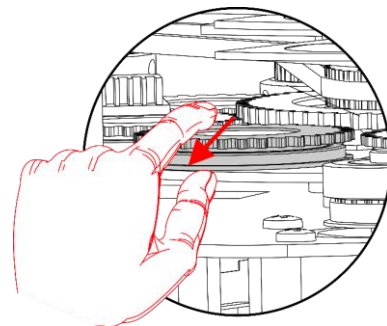

**Fig. 15**
- 03) Loosen the 6 hex screws on the maintenance cover, as shown in Fig. 15.